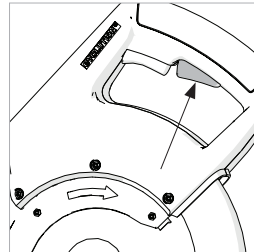

Fig. 25
- Remember to press the lock-off button first before the On/Off switch. **(Fig. 25)**